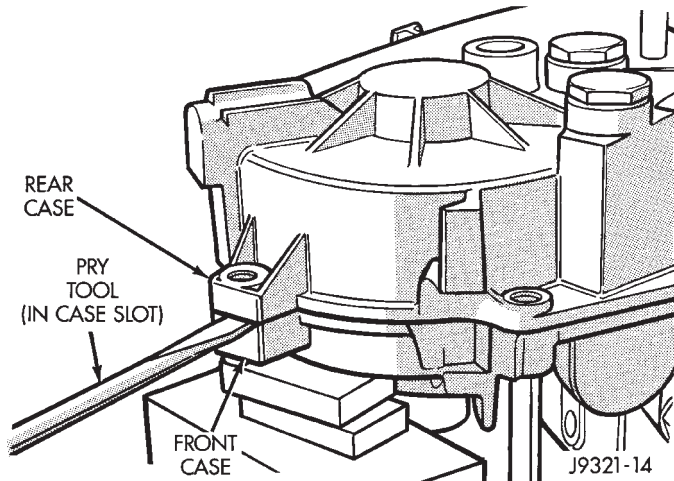

Fig. 23 Loosening Rear Case
- (3) Loosen rear case with flat blade screwdriver to break sealer bead. Insert screwdriver blade only into notches provided at each end of case (Fig. 23).